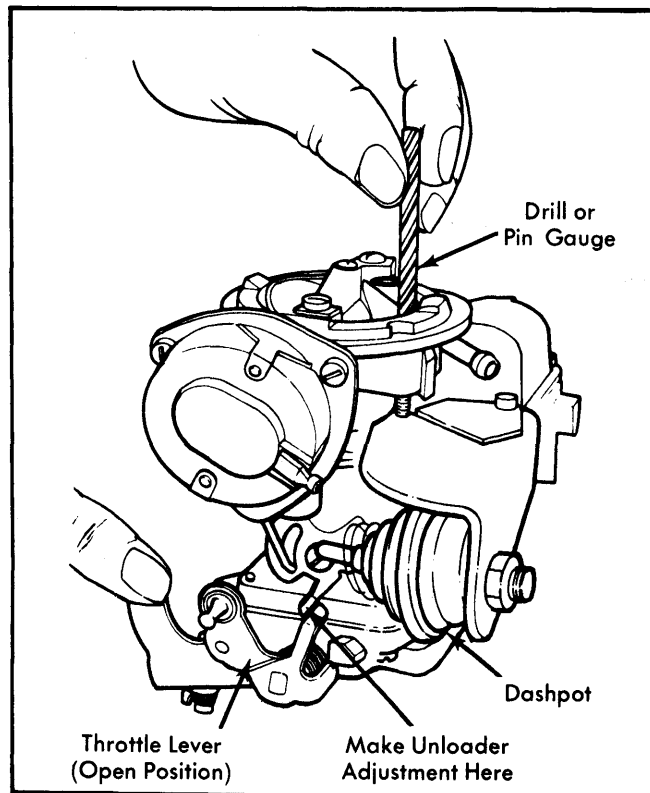

Fig. 4 Adjusting Choke Unloader (Dechoke)
1) Hold throttle valves wide open. Press choke valve toward closed position. See Fig. 4.